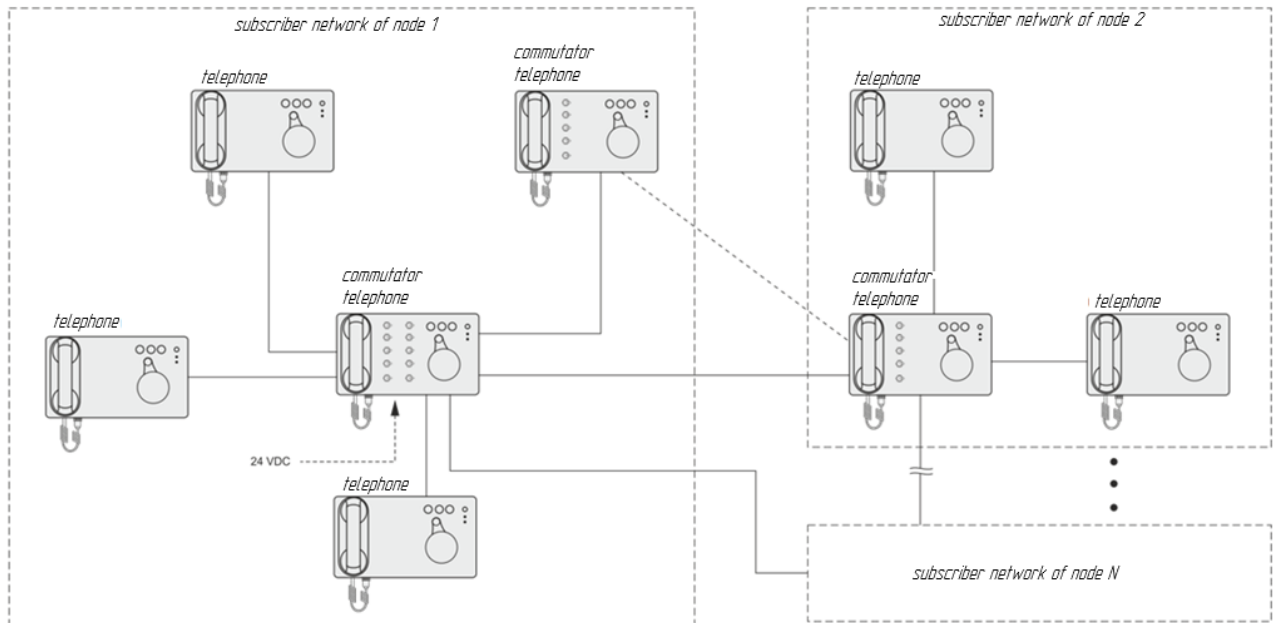

Figure 4 – Combined user network
c) combined user network (using any combination of commutator telephones and telephones) for communication (pair and general list (all)) of the main station within its group and users of other groups, see Figure 4.